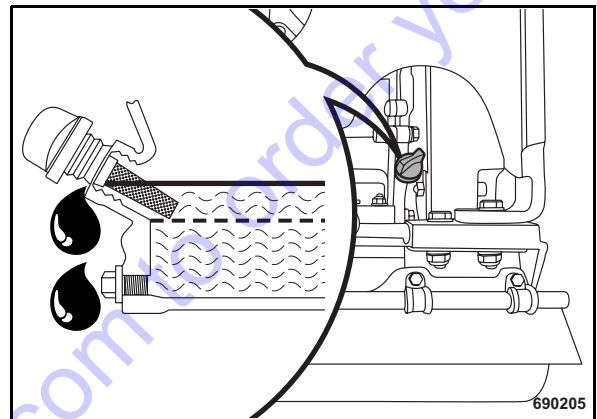

Fig. 40
- Pull out the dipstick (Fig. 40) and wipe it clean with a lint-free, clean cloth.